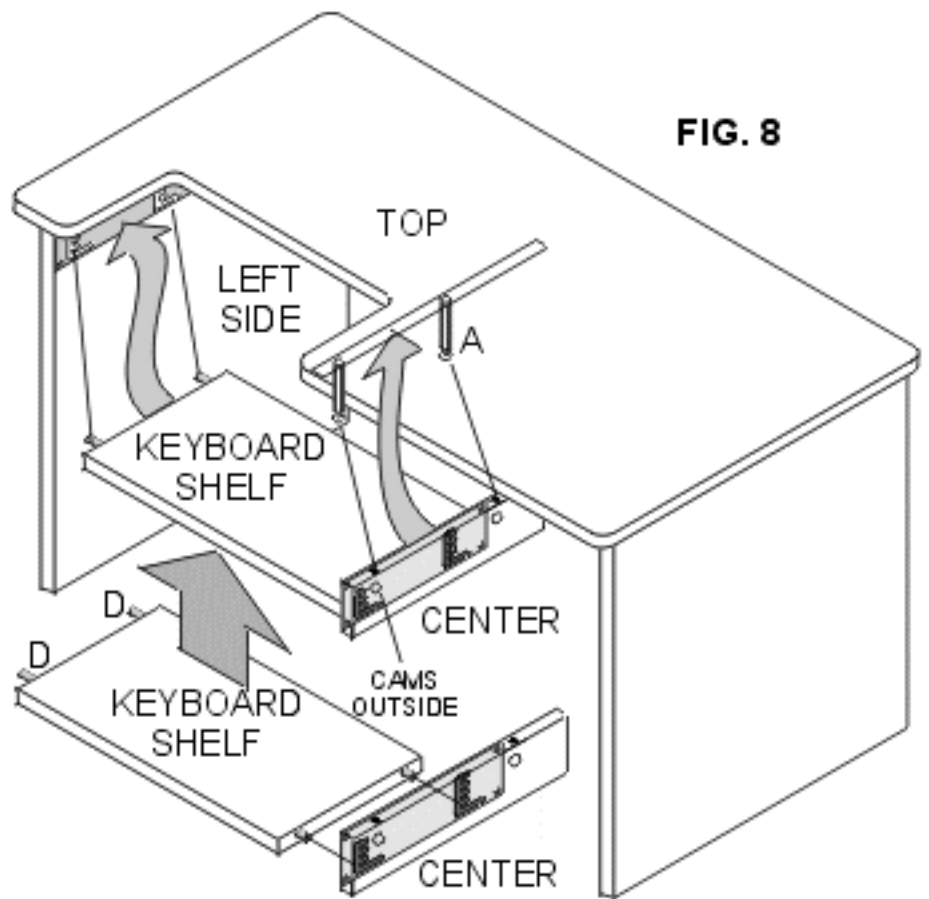

FIG. 8
Align and insert (2) 1/4" METAL DOWEL PINS (D) on RIGHT EDGE of KEYBOARD SHELF into RIGHT KEYBOARD ADJUSTMENT PLATE (F) mounted to CENTER. FIG. 8 HOLD THESE (2) PARTS TOGETHER.